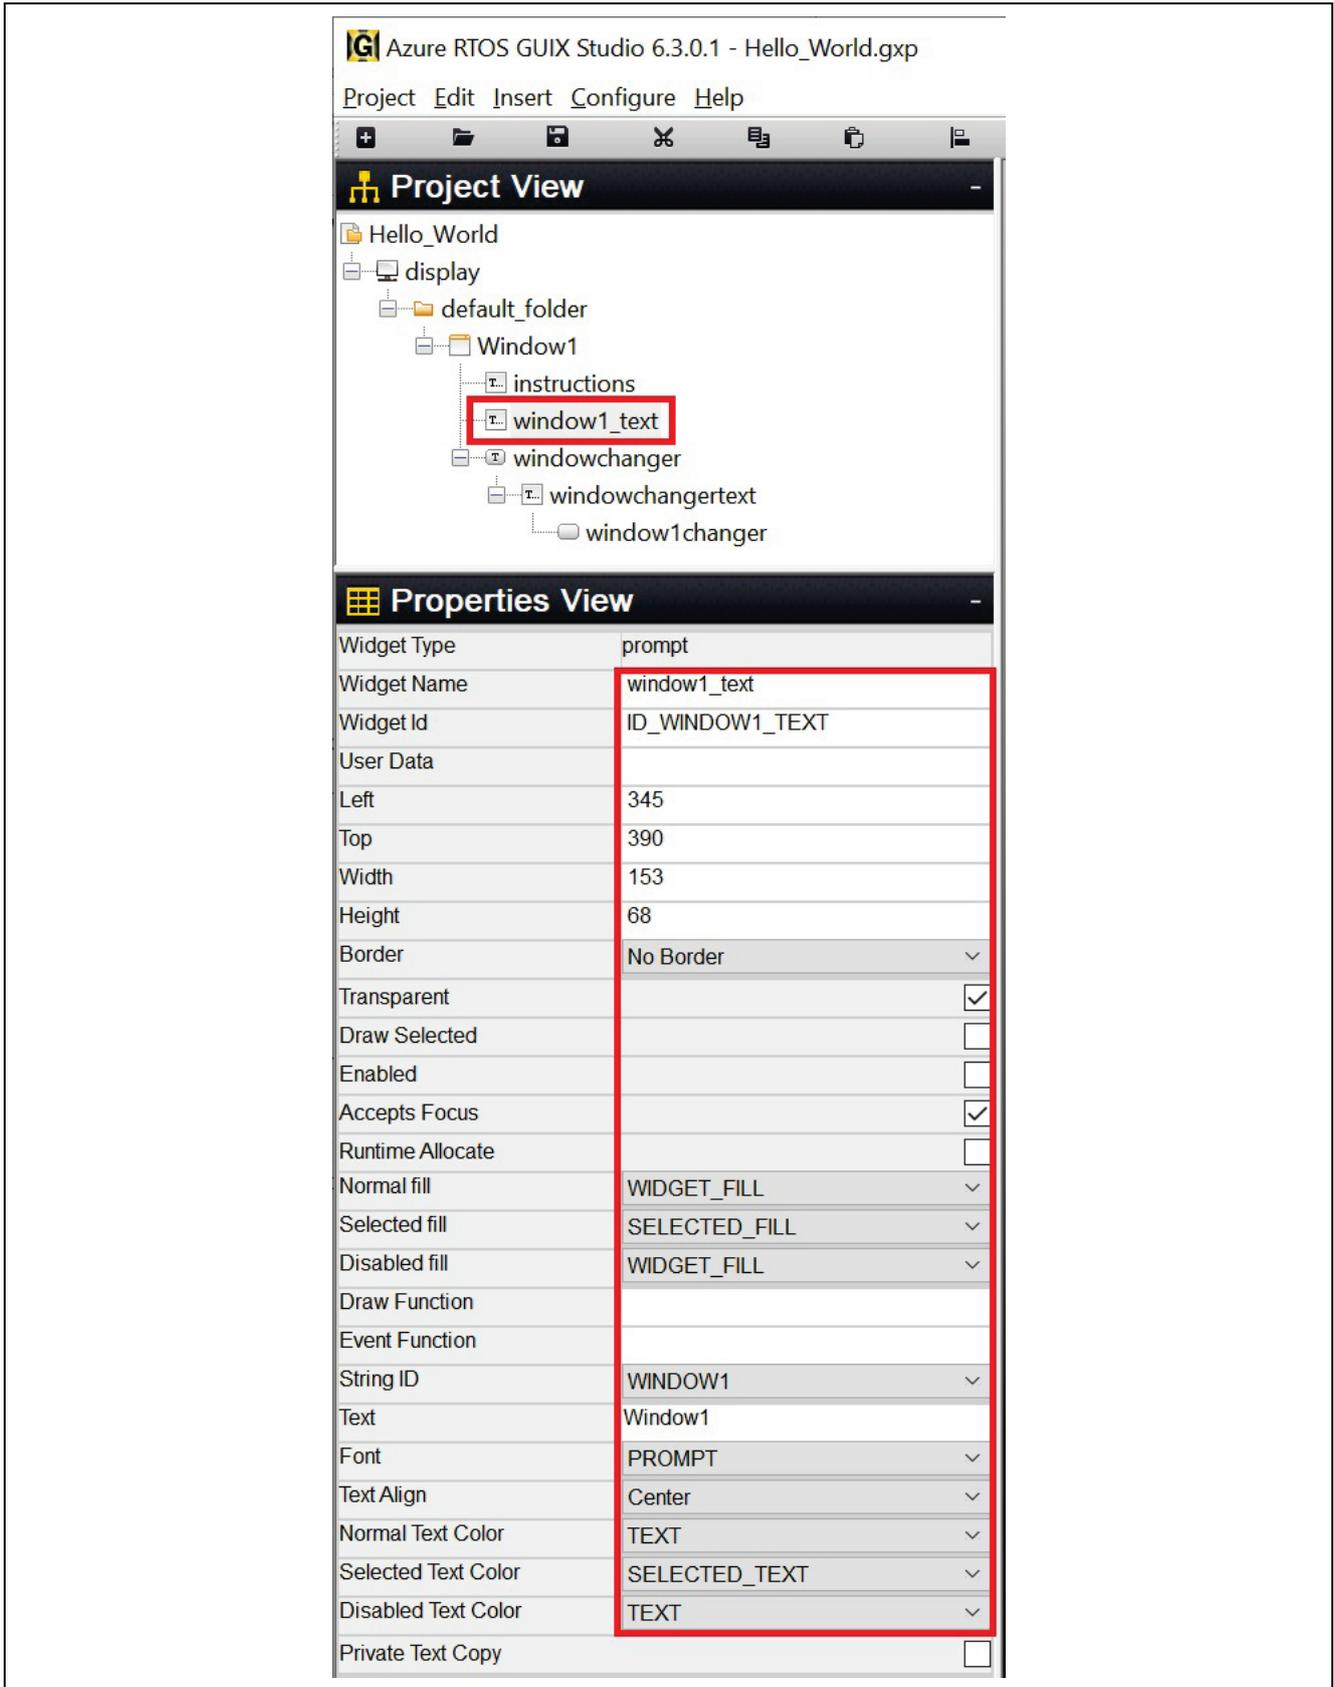

Figure 59. Properties View for Prompt1
20. Click **Insert > Button > Checkbox**. Right click on **Window1** and follow **Figure 59**.